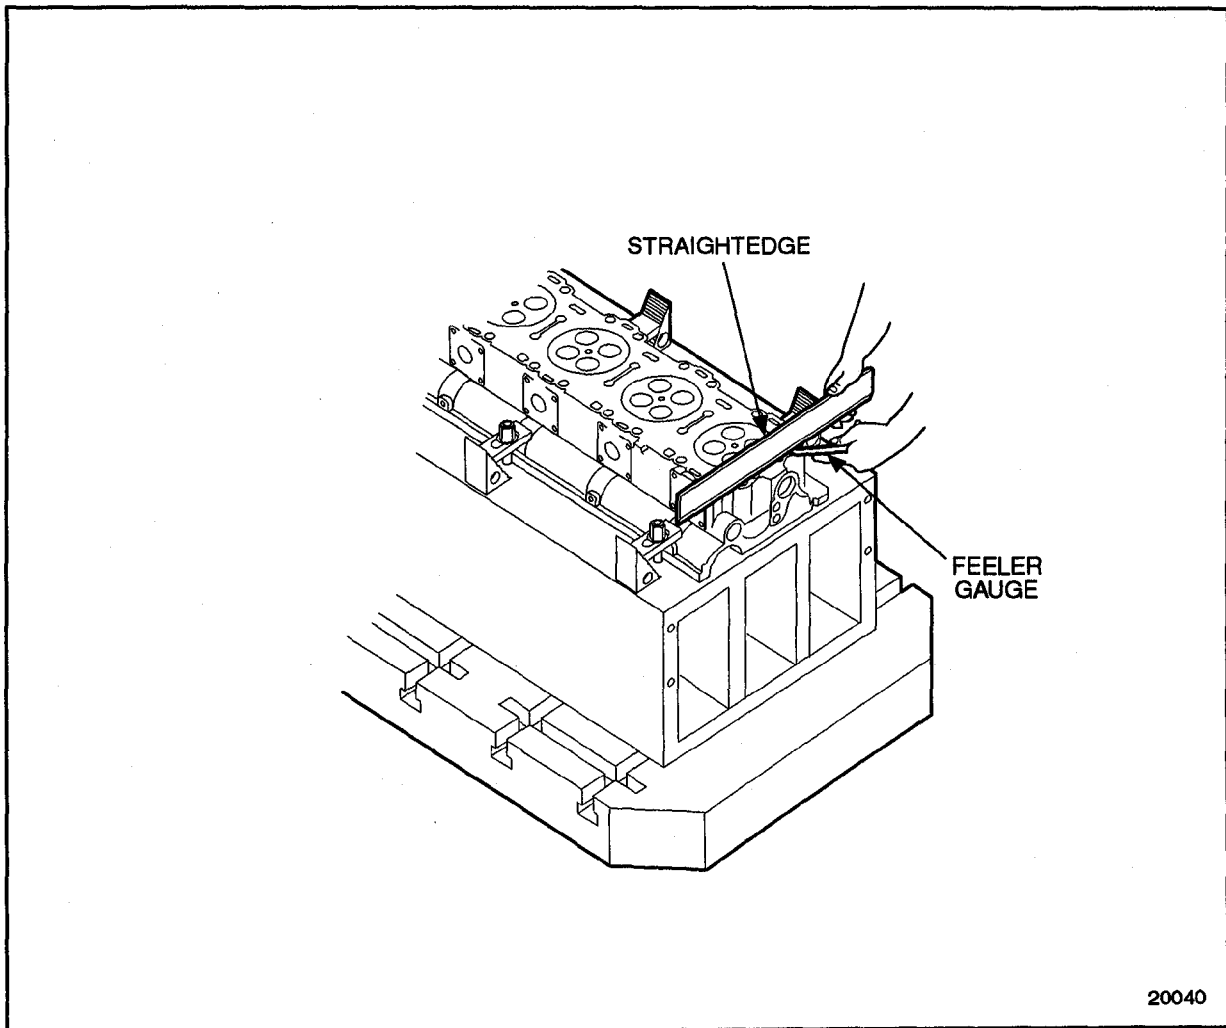

Figure 1-41 **Checking Firedeck Straightness**
1. Use a heavy, accurate straight-edge and feeler gages to check for transverse and longitudinal warpage. See Figure 1-41.